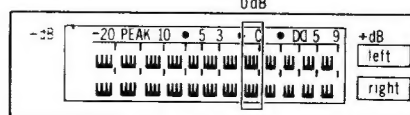

Fig. 17
4. At this time, check that 0dB indicator is lighted halfway (intermediate brightness between full brightness and light-out: See fig. 17).